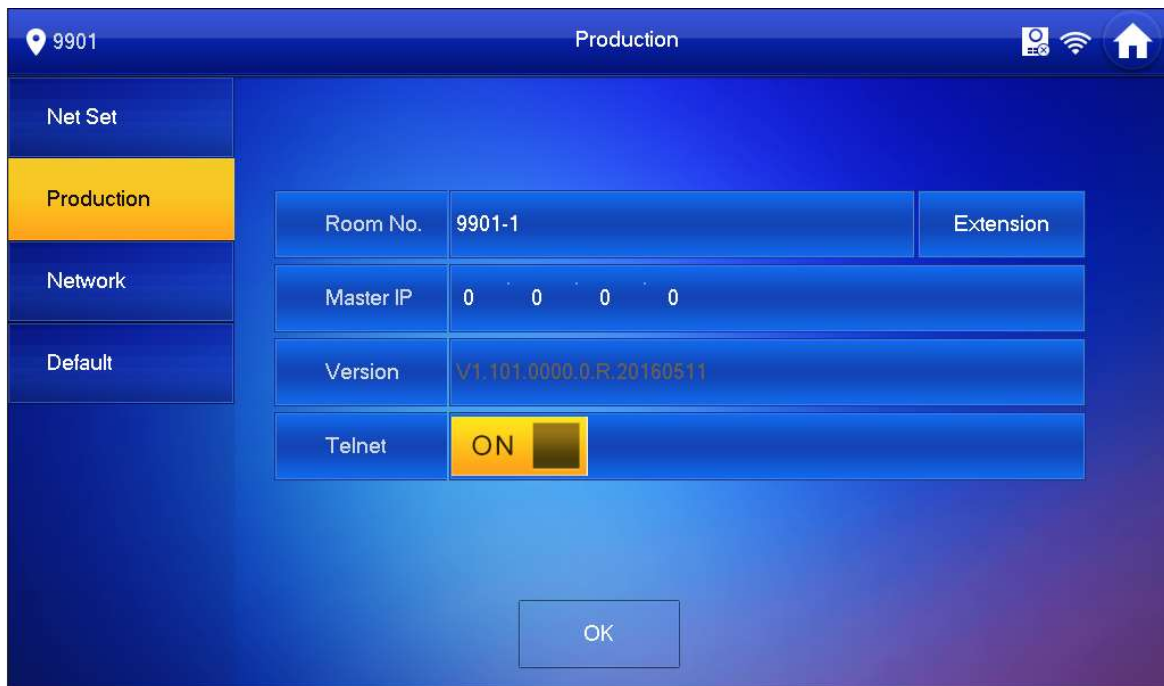

Figure 4-6
- If you want to set this VTH to be extension VTH, then you shall select Extension. Fill in user config info for extension to auto sync with master, such as room no. and master IP. See Figure 4-6.